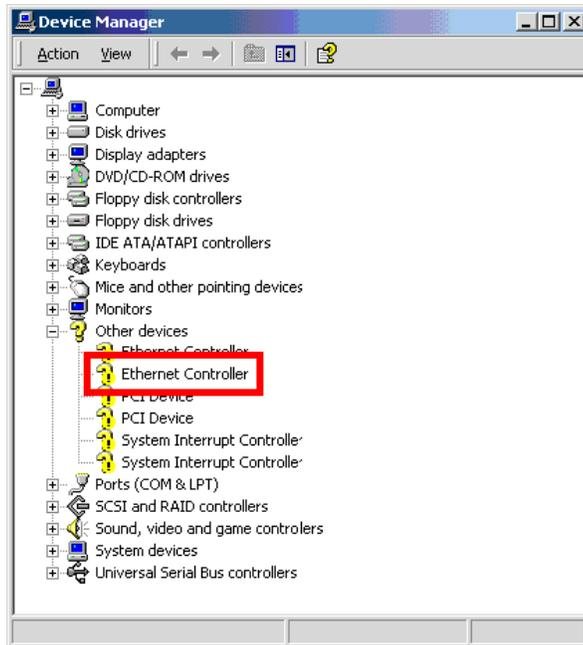

Figure 6-22: Device Manager List
Step 4: A list of system hardware devices appears (Figure 6-22).